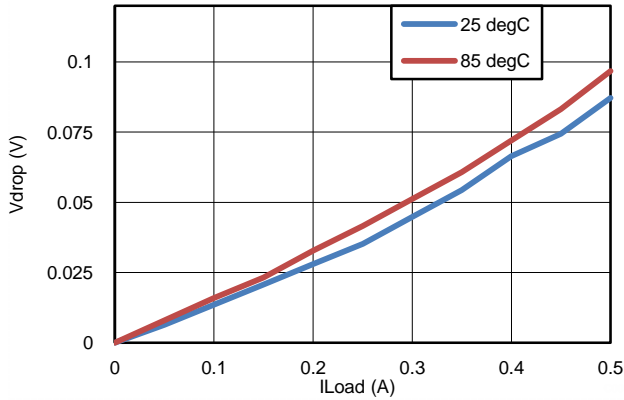
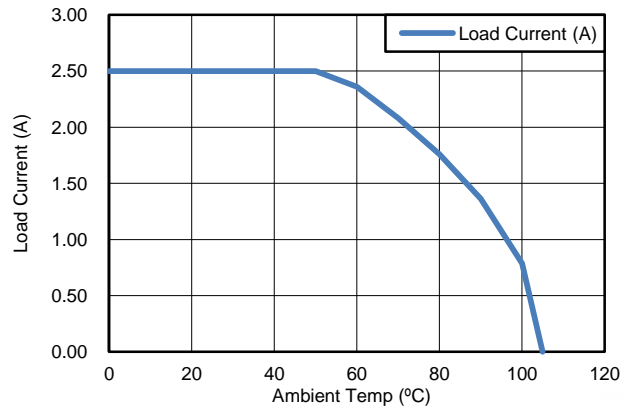

Figure 10. Vdrop vs IL; VGSQ1=-1.2V
**Figure 16. Vdrop vs IL; VGSQ1 = -7V**
Where, IDQ1 and IDQ2 are the DC current flowing through the transistors Q1 and Q2 respectively. Refer to the ELECTRICAL CHARACTERISTICS table and/or Figure 10 through Figure 16 to estimate RQ1(ON) and RQ2(ON) for various values of VGSQ1 and VGSQ2 respectively.